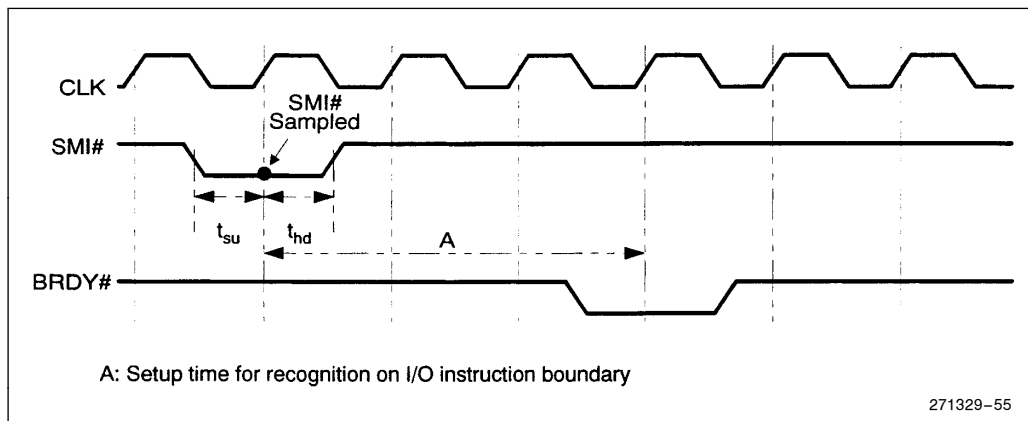

Figure 8-3. SMI# Timing for Servicing an I/O Trap
The SMI# signal is synchronized internally and must be asserted at least three (3) CLK periods prior to asserting the RDY# signal in order to guarantee recognition on a specific instruction boundary. This is important for servicing an I/O trap with an SMI# handler. (See Figure 8-3.)